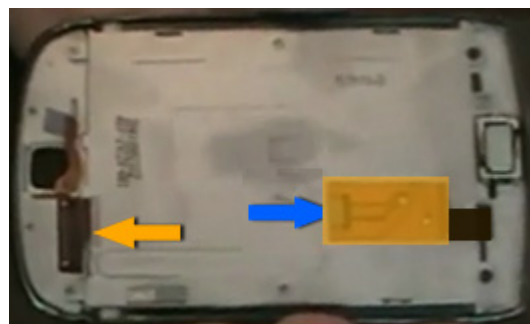

Figure 11
- Detach the flex cable at the location shown in figure 10 and remove the back plate from the front panel. The orange arrow in figure 11 points to the disconnected cable.
- In order to detach the flex cable of the digitizer, peel off the sticker that is covering it, at the back of the front panel (the orange rectangle in figure 11 shows the location). After peeling off the sticker, lift the clip up from the direction indicated by blue arrow and then slide out the flex cable.